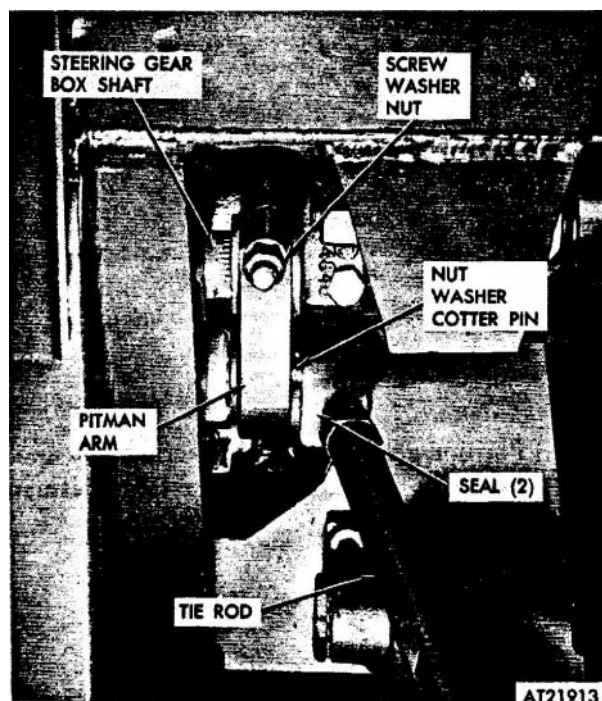
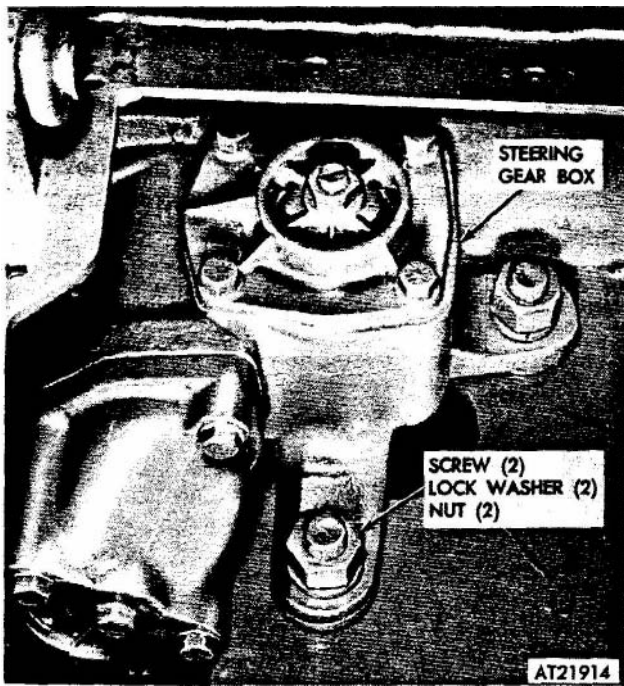
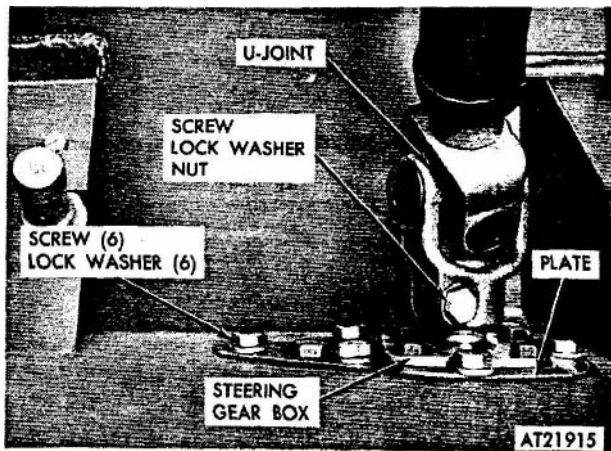

Figure 2-260. Tractor pitman arm attachment.
Figure 2-261. Tractor steering gear box (hull), removal and installation.
Figure 2-262. Tractor steering gear box (cab), removal and installation.
(3) Remove screw, nut, and washer securing pitman arm to steering gear shaft (fig 2-260).
(4) Remove screw, nut, and washer securing front steering shaft universal joint to steering gear shaft.
(5) Remove screw, nut, and washer securing steering column universal joint to steering gear input shaft (fig 2-262).
(6) Remove six screws, plates and lock washers securing steering gear box to tractor floor.
(7) Remove steering gear box by removing two screws, lock washers, and nuts securing steering gear to bulkhead (fig 2-261). Pull gear box down and out from floor and forward to clear pitman arm and steering torque tube.
(8) Remove and discard gasket from top of gear box.
- (1) Position gasket on top of steering gear box.
- (2) Position gear box to tractor floor, pitman arm, and torque tube.
(3) Secure gear box to tractor floor with six screws, six lock washers, and one plate. Torque screws to 15-24 lbs-ft. (fig 2-262).
(4) Secure gear box to bulkhead with two screws, lock washers and nuts (fig 2-261). Torque nuts to 105-145 lbs-ft.
(5) Align steering column universal joint slot with drill point in gear box cover.
(6) Secure steering column universal joint with screw, washer, and nut. Torque nut to 15-24 lbs-ft.
(7) Align pitman arm slot with groove on gear shaft and secure arm with screw, washer, and nut. Torque nut to 95-120 lbs-ft.
(8) Align steering torque tube universal joint to steering gear box and secure with screw, washer, and nut. Torque nut to 15-24 lbs-ft.
(9) Ensure that aligning marks on steering wheel hub and steering column align with wheels in a straight ahead position. Perform wheel alignment (refer to para 2-169).
(10) Service gear box (refer to LO 9-2320-242-12).
(11) Check for synchronized front-rear steering (refer to TM 9-2320-242-10).
(12) Install gear box access panel
(13) Test drive vehicle to check for proper operation of steering gear box (refer to TM 9-2320-242-10).
(1) Remove two nuts, washers, and cotter pins securing tie rod and intermediate rod to pitman arm. Remove tie rod and intermediate rod from pitman arm, using tie rod removal tool (11595179). Remove and discard tie rod and intermediate rod seals and cotter pins (fig 2-260).
(2) Remove pitman arm by removing nut, screw, and lock washer securing pitman arm to steering gear box shaft.
(1) Position pitman arm on steering gear box shaft (fig 2-260). Align slot in pitman arm with index mark on steering gear box shaft.
(2) Secure pitman arm with screw, lock washer, and nut. Torque nut to 95-120 lbs-ft.
(3) Install seals on tie rod and intermediate rod. Position tie rod and intermediate rod to pitman arm and secure with two nuts, washers and cotter pins.
(4) Test drive vehicle to check for proper steering (refer to TM 9-2320-242-10 for operating instructions). If necessary, align wheels (refer to **para** 2-169).